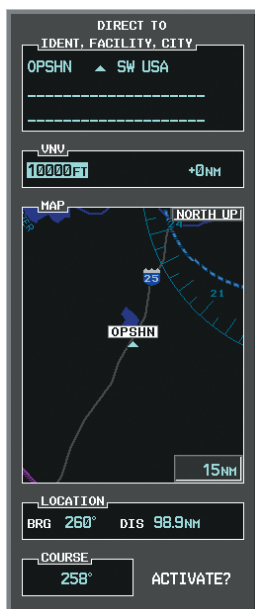

Figure 5-122 Enter VNV Altitude
d) Turn the large **FMS** Knob to place the cursor in the VNV altitude field as shown in Figure 5-122.